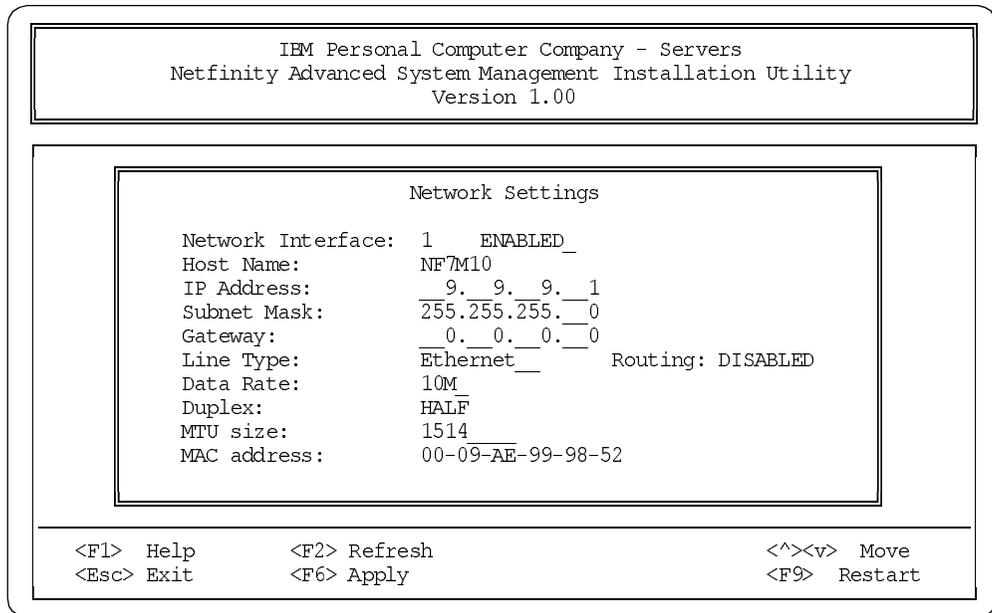

Figure 61. Network Settings (Advanced System Management PCI Adapter Only)
- Network Settings (ASM PCI adapter only), which allows you to enter information to access your system in a TCP/IP network. Selecting this option produces a window similar to Figure 61 on page 78: